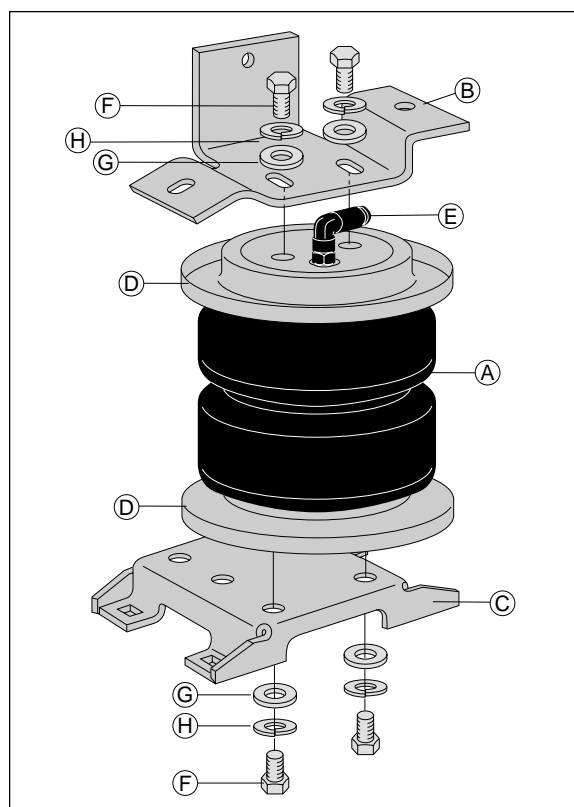

Figure 3
1. Install 90 degree air swivel fitting (E) to the top of the bellow. This fitting is precoated with sealant. Using an open-end wrench, tighten 1 and  $\frac{1}{2}$  turns (Figure 3).
2. Install backer plates (D) to the top and bottom of the air springs (A).
3. Set upper bracket (B1 or B2) on top of the air spring assembly backer plate with the vertical flange opposite of the air fitting. Attach with two bolts (F) and two lock washers (H), and two flat washers (G). Refer to Figure 3.
4. Use the lower bracket template provided on page 9 to determine the proper mounting location for the bellow. Use the holes marked "C" for mounting. Attach lower bracket (C) and backer plate to the bottom of the bellow using two bolts (F), two lock washers (H), and two flat washers (G). Attach so that the bracket offsets to the outside of the axle (Figure 3).